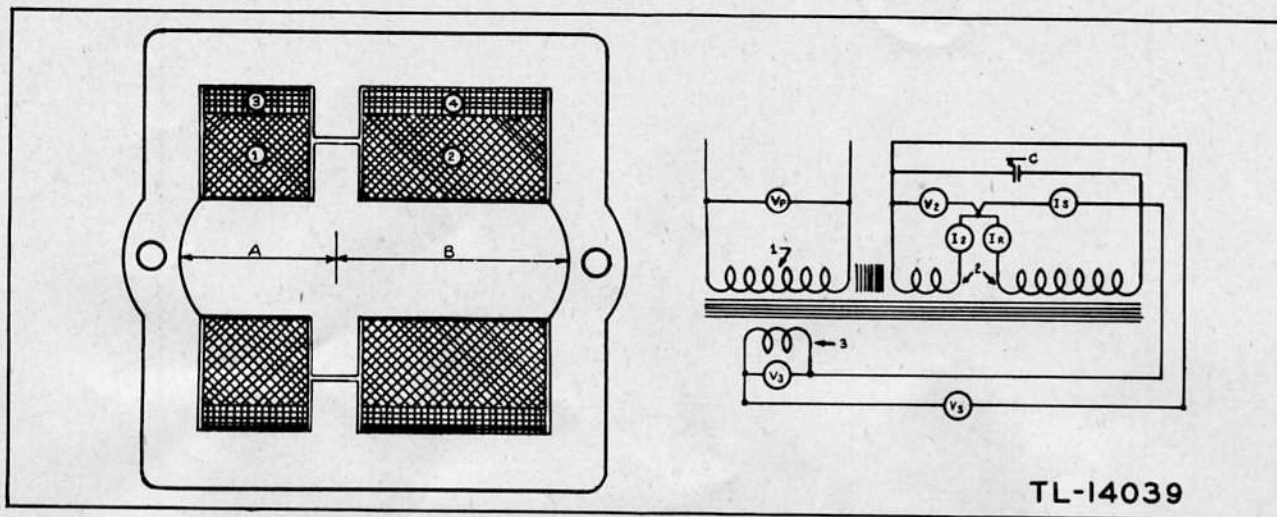

Figure 30. Constant voltage transformer, cross section of transformer and schematic diagram.
c. Constant Voltage Transformer Circuit. The constant voltage transformer employs a combination of resonant circuit action with that of a transformer having high leakage reactance. A specially shaped lamination, shown in figure 30, is employed. The side bars on the core form a magnetic shunt contributing to the regulatory action of the transformer.
(1) The windings are as follows:
(2) The output energy is largely drawn from the resonant circuit. The voltage in the tank circuit is stabilized by the action of the magnetic shunt interposed between the primary and the tank circuit.
(3) The voltage appearing across the tank circuit varies slightly with changes in primary voltage. These small variations are to a large extent compensated for by opposing the output voltage with a small voltage developed across the compensating winding.